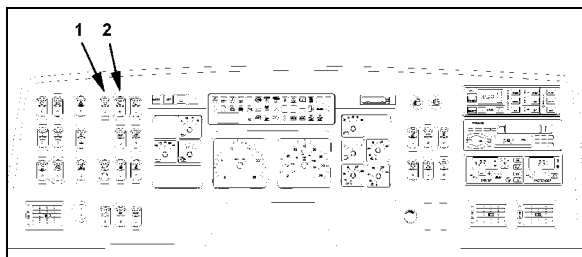

FIGURE 30: DASHBOARD
Depress the upper windshield wiper switch located on the dashboard L.H. side to the first position for intermittent wiping, and to the second position for continuous wiping (item 1, fig. 30).
5. Install the right wiper arm in its normal position (in the middle of the windshield (Fig. 30)). Refer to paragraph "9.2.1 Sweep Adjustment".
3. Install the left wiper arm in its normal position (in the middle of the windshield (Fig. 30)). Refer to paragraph "9.2.1 Sweep Adjustment".